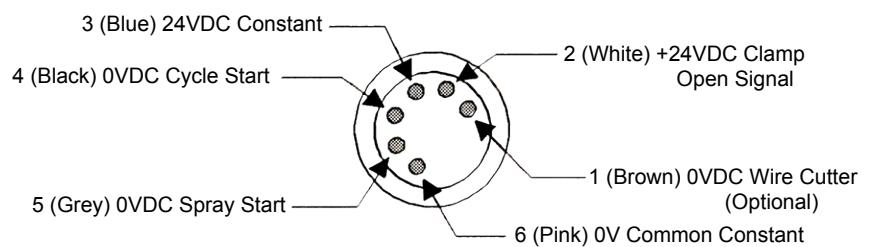

Fig. 2
Electrical connection information for the nozzle cleaning station cordset is given in Fig. 2.
1. The cycle time for nozzle cleaning (reaming) is controlled by the robot program. With the ground “on” on Line 4 (see Fig. 2), the reamer starts upward travel, the blade begins rotating, and the clamp secures the welding nozzle in place. With the ground still applied, the reamer reaches the top of its stroke (cleaning position), and remains there as long as the ground is “on”. When the ground is turned “off”, the reamer will begin its downward travel, continuing to rotate with the clamp still closed. Upon reaching the bottom of its stroke (home position), the blade will stop rotating and the clamp will open.
2. Line 2 (see Fig. 2) is a “cycle status” line which informs the robot of the clamp status. When the clamp is open, the robot will see a 24VDC signal on this line. As the clamp is closed (during the cleaning cycle), Line 2 will read 0VDC. The robot program should not allow any robot movements when Line 2 is a 0VDC.
1. The anti-spatter sprayer is activated by the same type of signal as the “cycle” Line 4 (see Fig. 2). The robot should be programmed by Line 5, to move directly over the sprayer body to spray either before or after the reaming process. With the ground “on” on Line 5 (see Fig. 2), the sprayer will dispense anti-spatter until the ground is turned “off”. Spray dispensation should be determined by the robot operator.
2. The amount of anti-spatter delivered can be controlled in (2) ways. First, the length of time that the Line 5 is activated to ground “on”, and second is the adjustment of the flow control located on the side of the unit directly above the anti-spatter bottle. The flow control can be used to richen or lean the anti-spatter mixture.